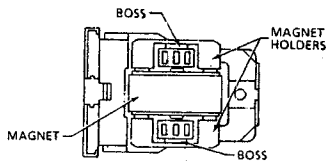

FIGURE 5
- e. Spread the magnet holders shown in Figure 5 to clear the bosses and then remove the magnet.